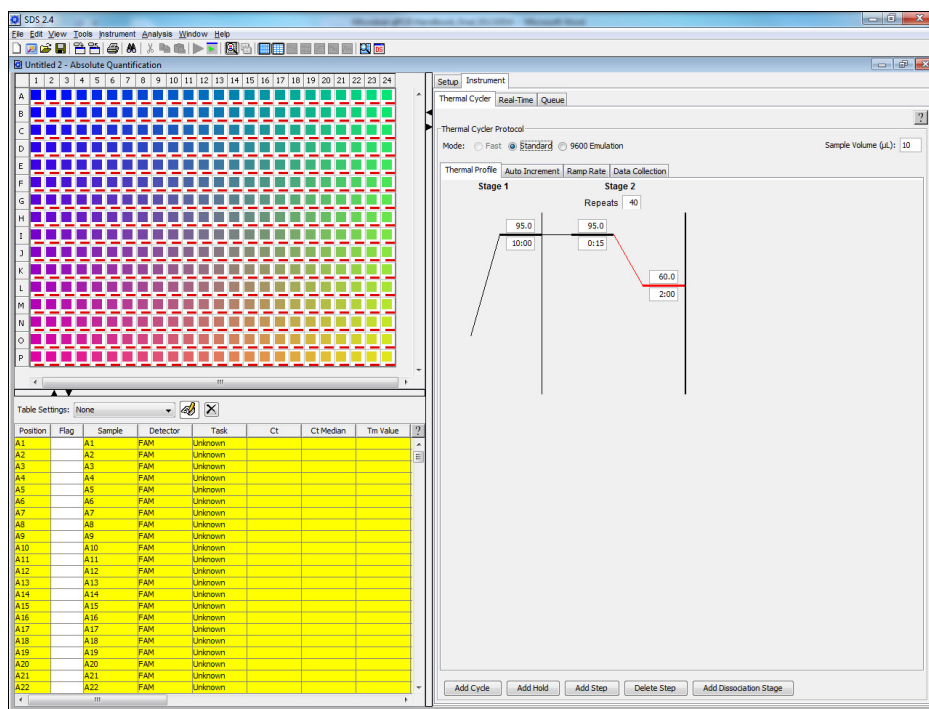

Figure 3. Run set up.
6. Click the "Instrument" tab, then the "Thermal Cycler"/"Thermal Profile" tabs (Figure 3).